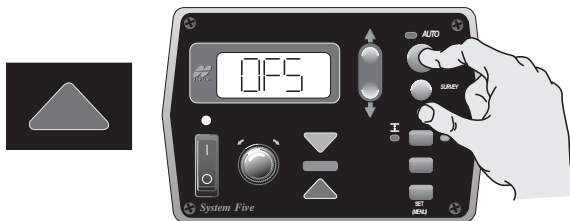

Figure 23. Select Valve Offset
1. From the Performance Menu, press the Auto button to select Valve Offset. This will automatically activate the value screen for Raise Offsets. The raise grade correction display arrow illuminates, and the Control Box will begin sending a raise correction signal to the valve (Figure 23).